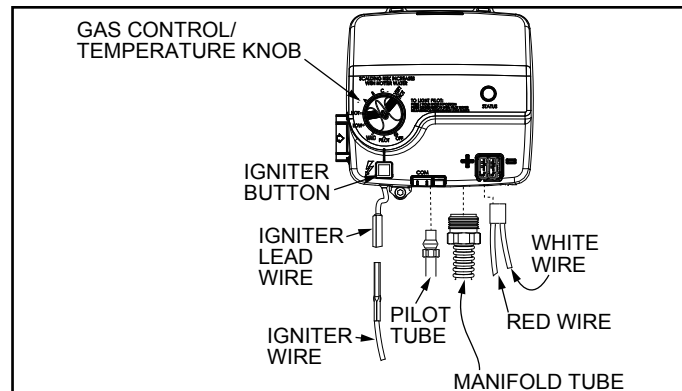

FIGURE 22
- Disconnect the igniter wire from the igniter lead wire. Use needle nose pliers to disconnect the red (+) and white (-) thermopile wires. Disconnect the pilot tube (7/16" wrench) and manifold tube (3/4" wrench) at the gas control valve/thermostat (Figure 22). NOTE: L.P. Gas systems use reverse (left-hand) threads on the manifold tube.
- Turn the gas control/temperature knob to the "OFF" position (Figure 22).
- Disconnect the following from the gas control valve/thermostat: pilot tube (7/16" wrench), igniter wire (from the igniter lead wire), and manifold tube (3/4" wrench). See Figure 22. NOTE: L.P. Gas systems use reverse (left-hand) threads on the manifold tube.
- Use needle nose pliers to disconnect the thermopile wire from the gas control valve/thermostat (Figure 22).